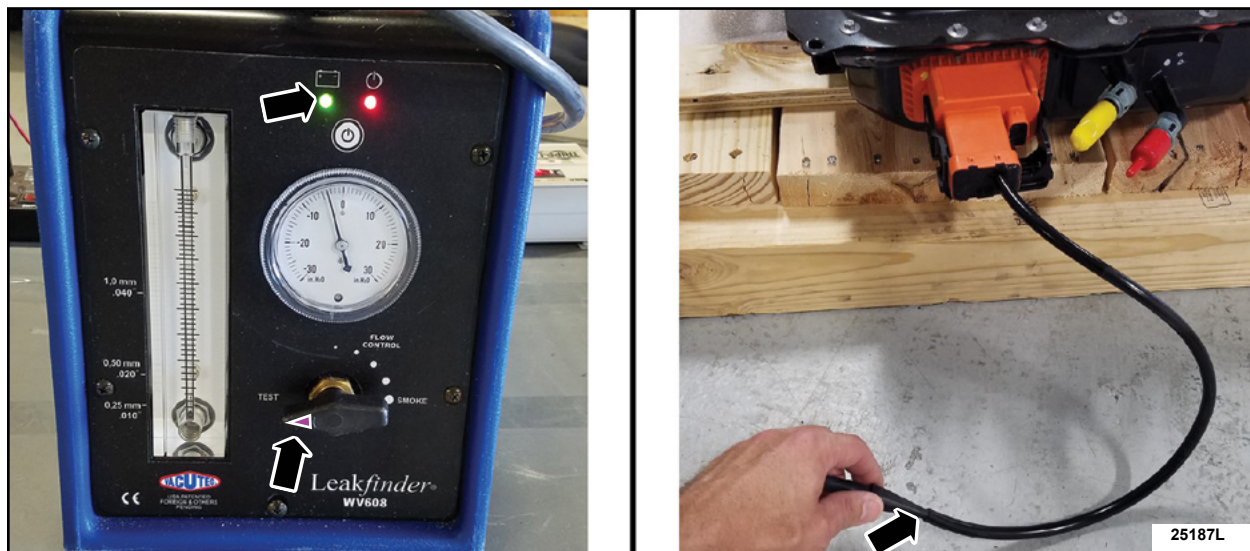

FIGURE 11
14. Connect the VACUTEC® Smoke Machine Fuel EVAP Emissions System Tester to a power source and verify it is powered ON (green light indicated on the battery symbol) and that it is connected to shop air. The shop air must be filtered to remove moisture and contaminants. Place and hold the air outlet hose into the air pressurization port on the connector. Set the VACUTEC® Smoke Machine Fuel EVAP Emissions System Tester to TEST. See Figure 11.